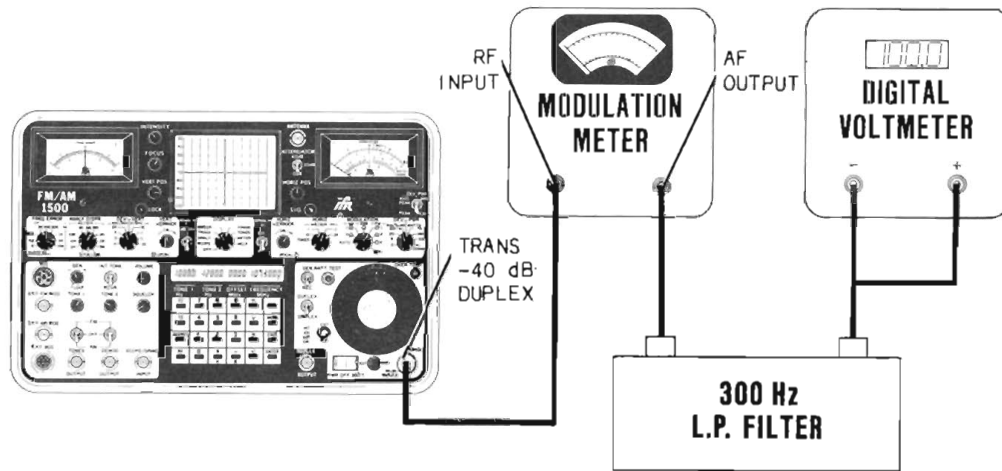

Figure 4-3 Residual FM Test Hookup
13. Connect a 50Ω Termination to DUPLEX OUTPUT Connector (16). Using external Spectrum Analyzer, measure RF output level at TRANS/-40 dB DUPLEX Connector (11). Verify output level is -50 dBm (3 dB).
14. Repeat Steps 12 and 13 for a 120.2000 MHz setting on LCD (21).
15. Connect Modulation Meter, 300 Hz Low-pass Filter and Digital Voltmeter to FM/AM-1500 as shown in Figure 4-3. Set Modulation Meter filters to 30 Hz high-pass and 3 KHz low-pass.